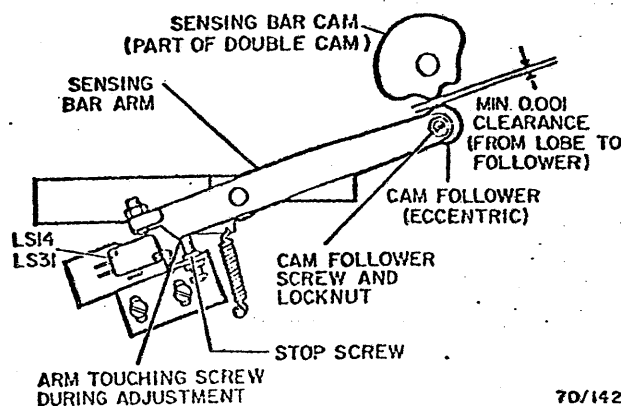

Fig. 3-69. Cam Follower
18. To adjust the sensing bar cam follower, place the sniffer in the "home" position. Back off the locknut on the sensing bar cam follower eccentric, and adjust the eccentric to obtain minimum clearance between the sensing bar cam and the cam follower (Fig. 3-69). Tighten cam follower locknut.